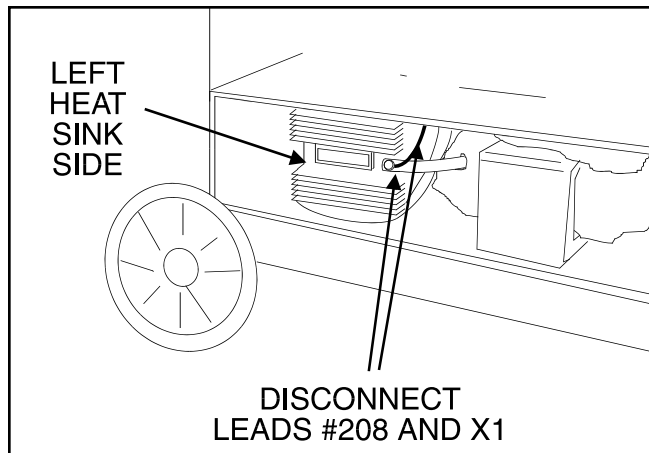

FIGURE F.14 - Heat Sink lead disconnection.
1. Disconnect lead #208 and Transformer Lead X1 from the heat sink on the left side of the machine (facing the front) using a 1/2" socket wrench. See Figure F.14.